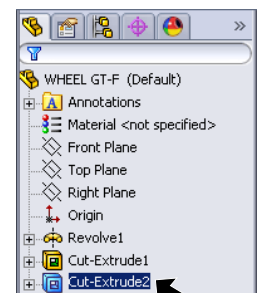

Fig. 17
Step 2. Click **Cut-Extrude2** in the Feature Manager (left panel) to select the hole in the wheel, **Fig. 17**.